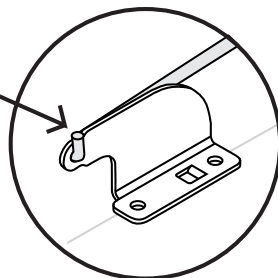

Figure 20: Left & right brackets, pointing up
5. While holding the connector arm in place, twist the connector arm so the ends of the connector arm point upwards (See Figure 20). The connector arm should now be locked into position.